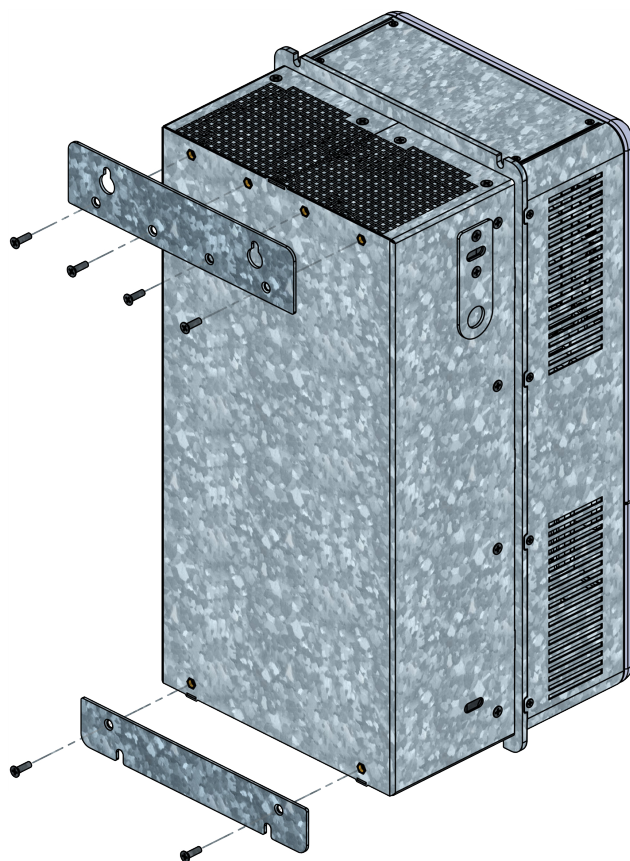
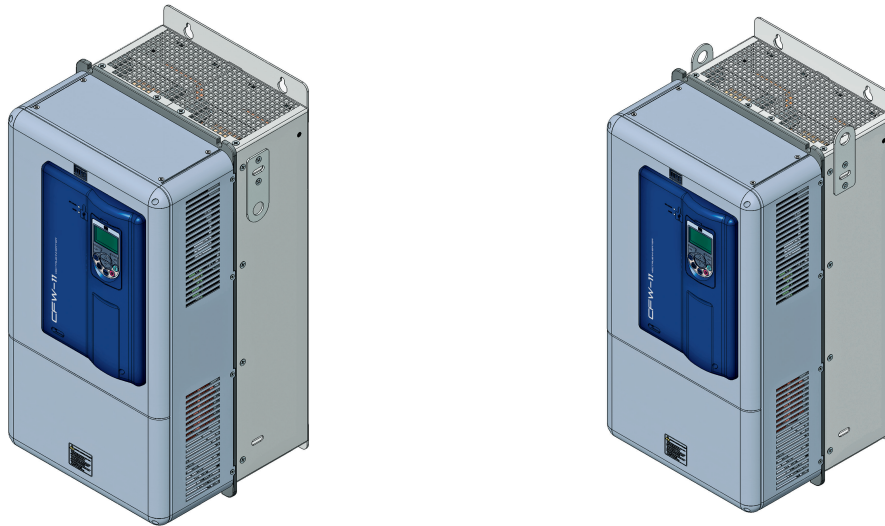

Figure 3.6 - Repositioning the mounting supports - frame size E
Figure 3.8 - Installation of the inverter hoisting eyes frame size E
- ☑ The inverter securing supports (position **I** of Figure 2.5 on page 2-9) and the hoisting eyes (position **J** of Figure 2.5 on page 2-9) must be removed and repositioned according to the Figure 3.6 on page 3-10 and Figure 3.8 on page 3-11.
- ☑ The inverter mounting supports and the hoisting eyes must be removed. Refer to the Figure 3.8 on page 3-11.
Two hoisting eyes for the inverter lifting, which are mounted at the inverter sides (rear part), are supplied. By inverting their position, as shown in Figure 3.8 on page 3-11, two points for hoisting the inverter, which are very useful during the mechanical installation of the inverter, are obtained.